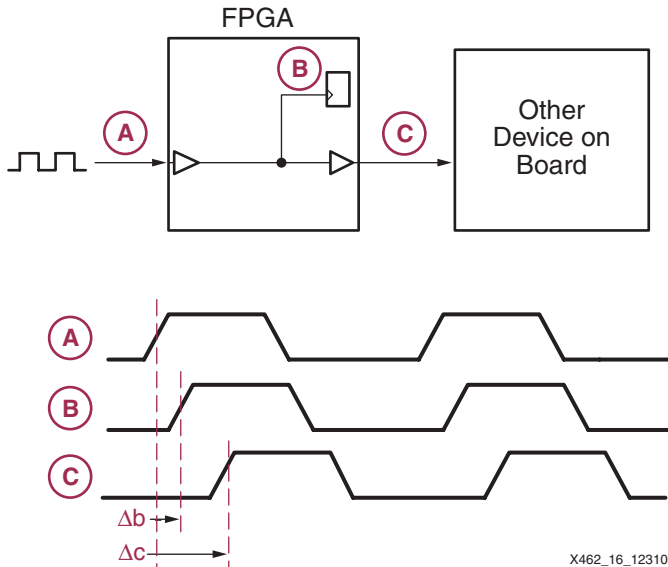
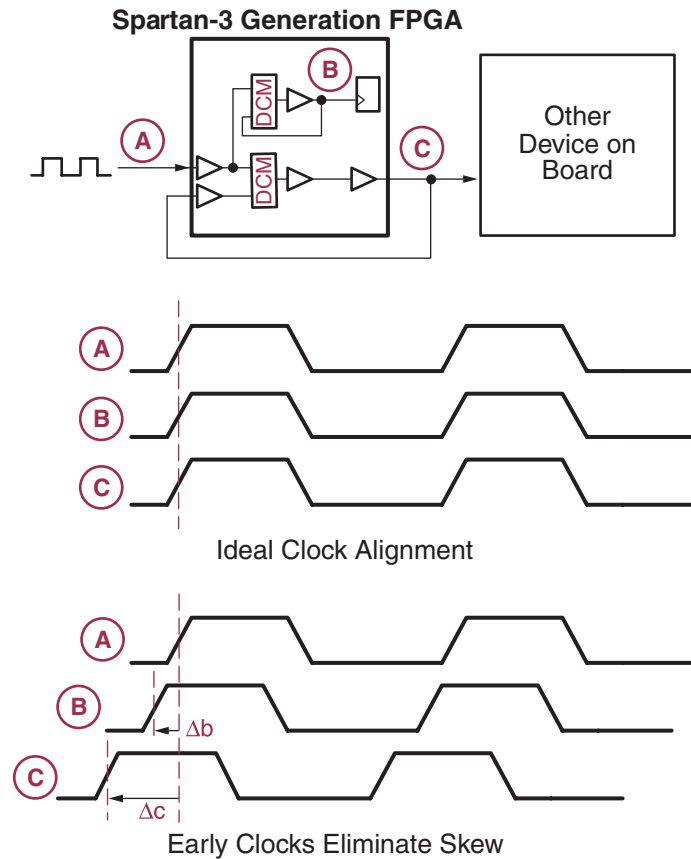

Figure 3-15: Clock Skew Inherently Exists in Every Synchronous System
Figure 3-16: Eliminating Clock Skew in a Spartan-3 Generation FPGA Design
Figure 3-15 illustrates clock skew in an example system. A clock source drives the clock input to an FPGA. The clock enters through an input pin on the FPGA, is distributed within the FPGA using the internal low-skew global clock network, and arrives at a flip-flop within the FPGA. Each element in the clock path delays the arrival of the clock edge at the flip-flop. Consequently, the clock input at the flip-flop—Point (B)—is delayed, or skewed compared to the original clock source at Point (A). In this example, this clock skew or difference in arrival time for this path is called Δb .
Is there a way to eliminate clock skew? Fortunately, a DCM provides such capabilities. Figure 3-16 shows the same example design as Figure 3-15, except this time implemented in a Spartan-3 Generation FPGA. Two DCMs eliminate the clock skew: one DCM eliminates the skew for clocked items within the FPGA, the other DCM eliminates the skew when clocking the other device on the board. The result is practically ideal alignment between the clock at Points (A), (B), and (C)!
How is clock skew elimination accomplished? Remember, clock skew is caused by the delay in the clock path. In Figure 3-16, the clock at Point (B) was skewed by Δb and the clock at Point (C) was skewed by Δc . What if there was a way to provide Point (B) with an early version of the clock, advanced by Δb and a way to provide Point (C) with an early version of the clock, advanced by Δc ? The result would be that all clocks would arrive at their destinations with perfect clock edge alignment. Such perfect alignment reduces setup times, shortens clock-to-output delays, and increases overall system performance.
Instead of attempting to determine the Δb and Δc delays in advance, the Spartan-3 DCM employs a DLL that constantly monitors the delay via a feedback loop, as shown in Figure 3-16. In this particular example, two DCMs are required—one to compensate for the clock skew to internal signals and another to compensate for the skew to external devices, each with their own clock feedback loop. The DLL constantly adapts to subtle changes caused by temperature and voltage.